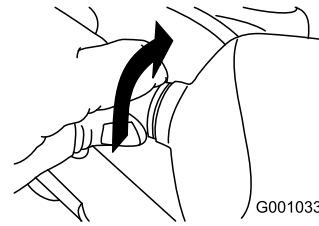

Figure 55
2. Turn the base of the bulb counterclockwise until it stops (Figure 55).